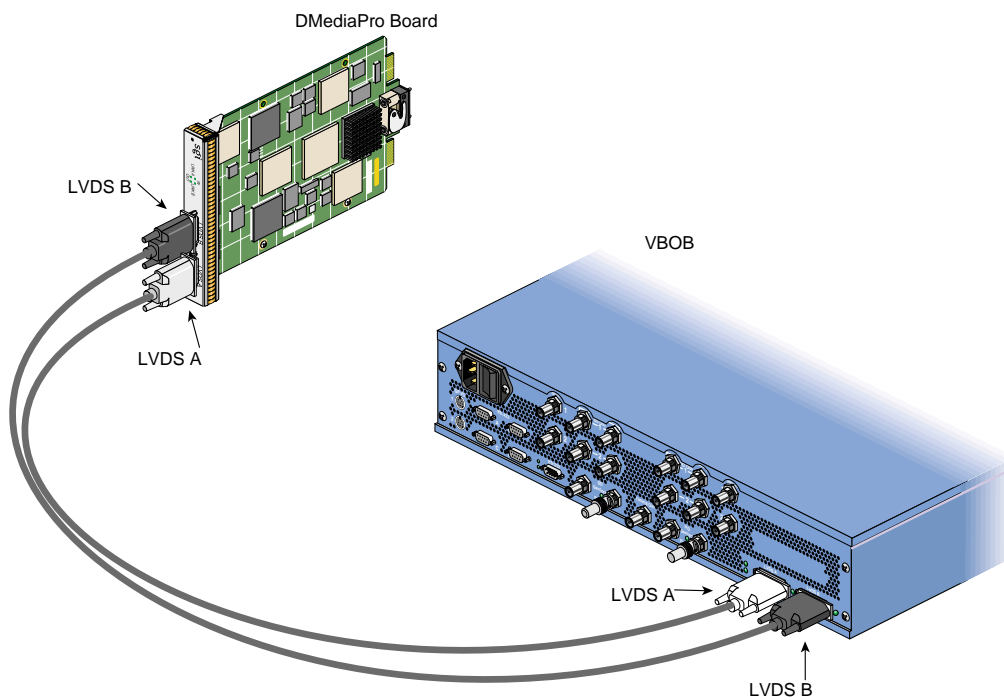
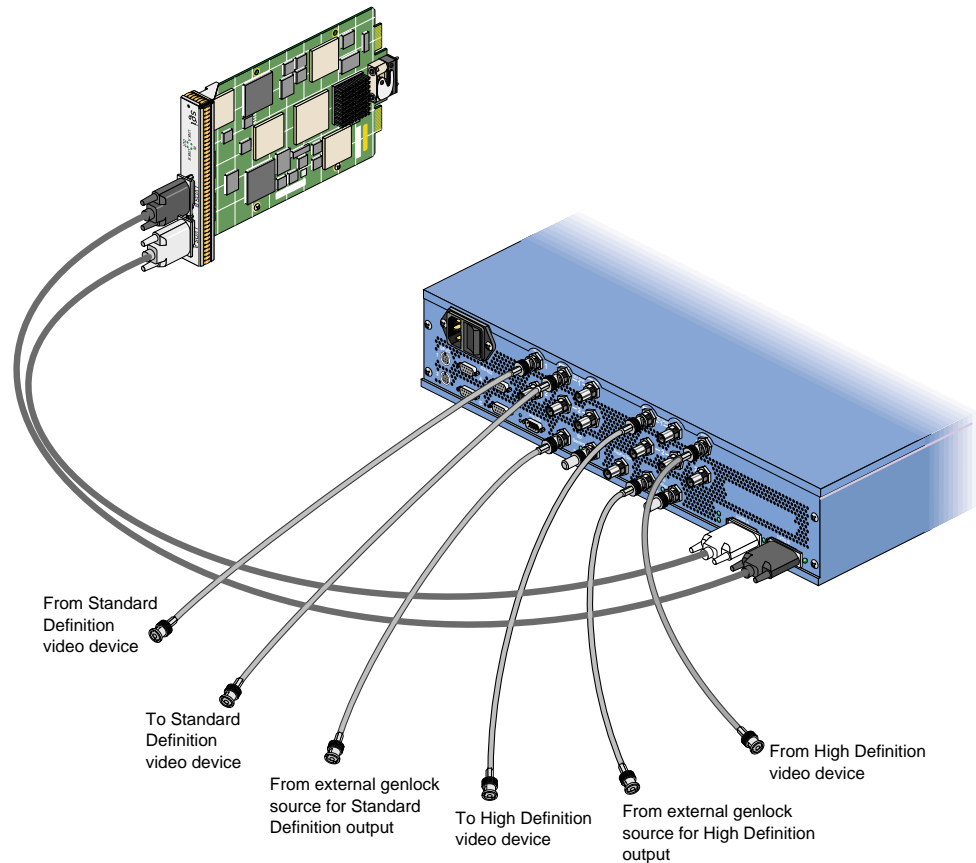

Figure 3-1 Connecting the DMediaPro Board to VBOB
Figure 3-2 Connecting the I/O Cables to VBOB
1. Connect one end of the LVDS A cable (black cable with white connector on each end) to the DMediaPro Board's LVDS A connector. Connect the other end of this cable to the VBOB LVDS A connector, as shown in Figure 3-1.
After you complete the connections in Figure 3-1, you can connect the required cables from the VBOB HD In/Out or SD In/Out connector(s) to the desired High Definition or Standard Definition video device(s). If you are genlocking the serial digital output to an external source, connect an analog sync source to the VBOB HD Genlock In or SD Genlock In connector (see Figure 3-2).